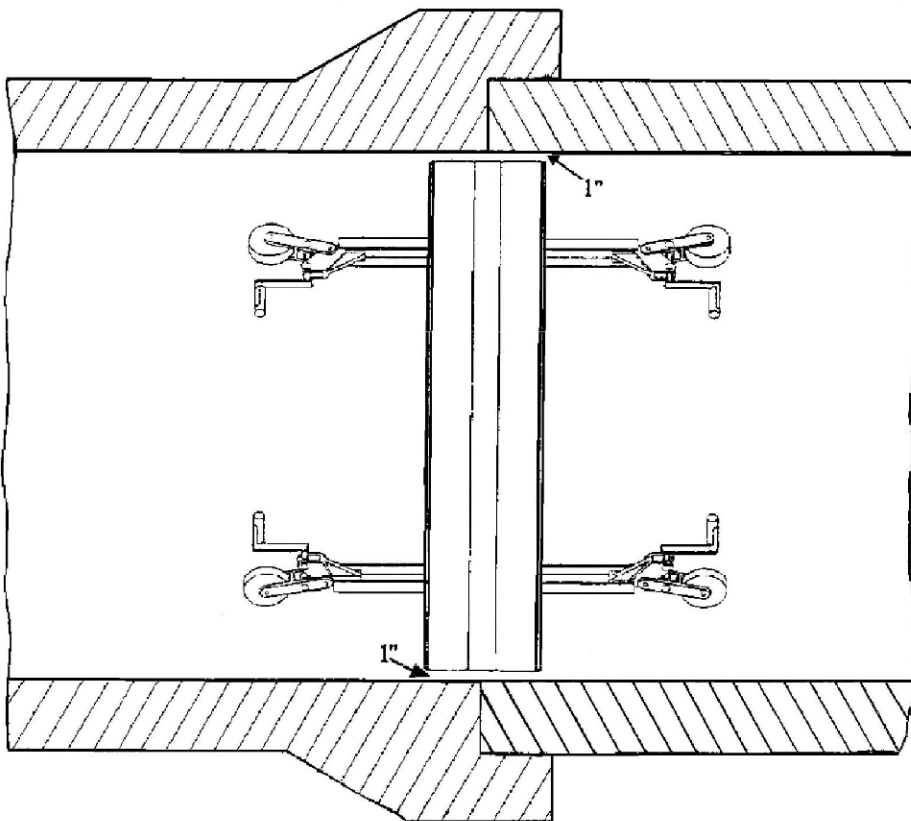

FIGURE 6
2. Refer to FIGURE 6. Place the joint tester in it's upright position so that each end element straddles the joint being tested.